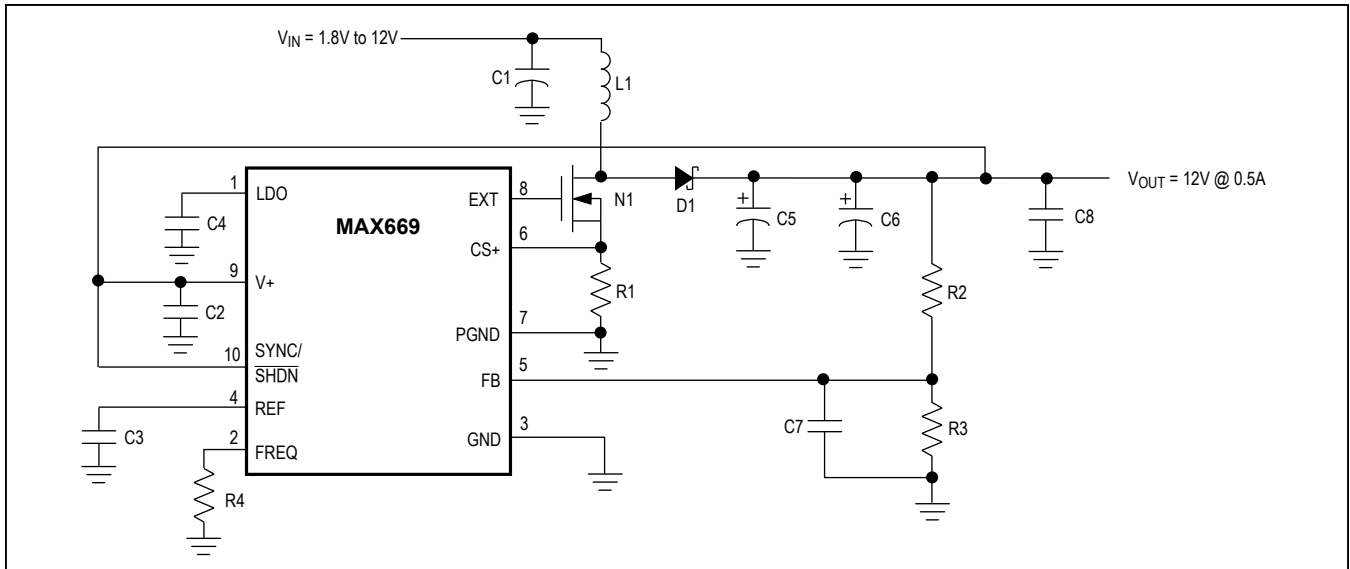
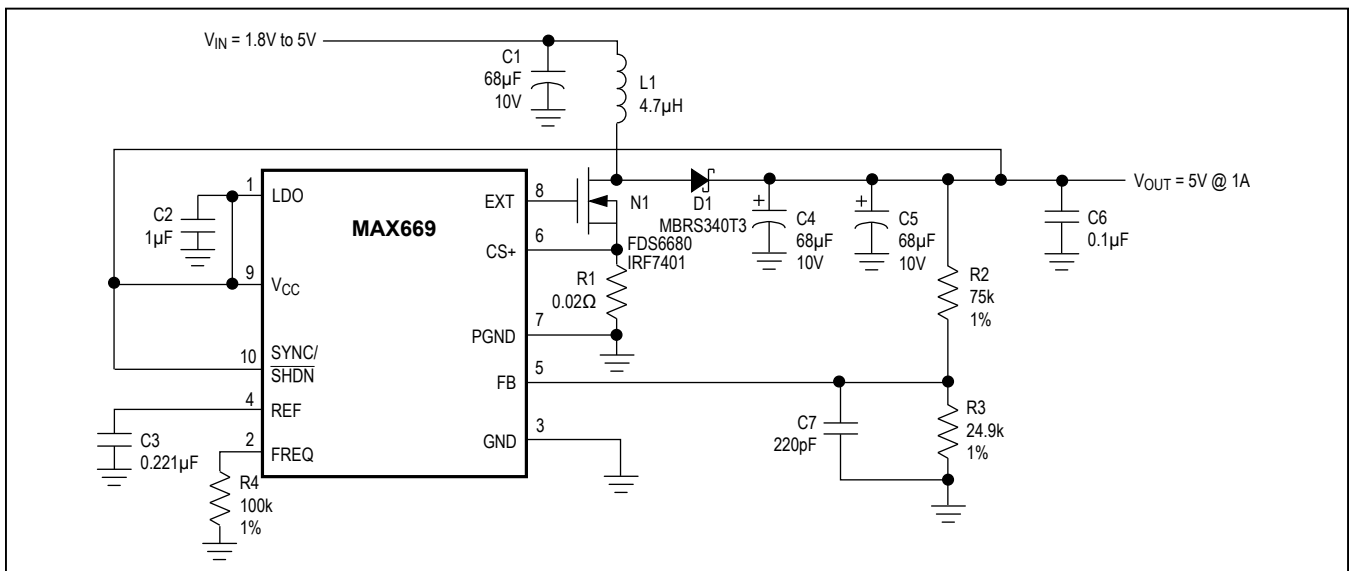
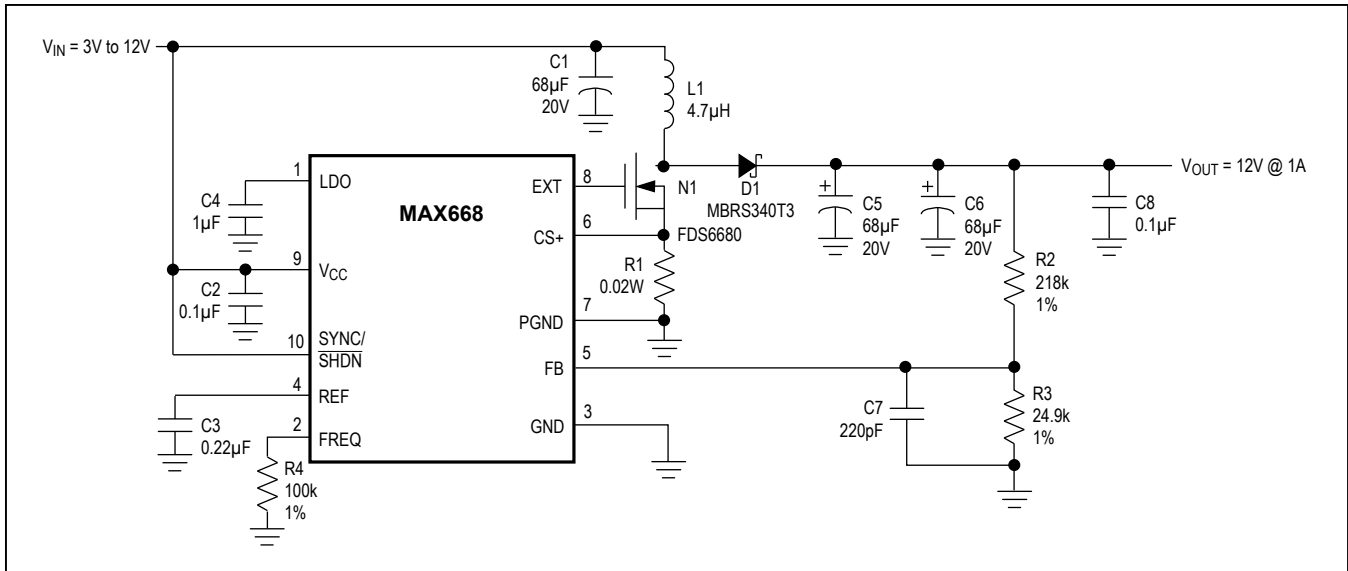
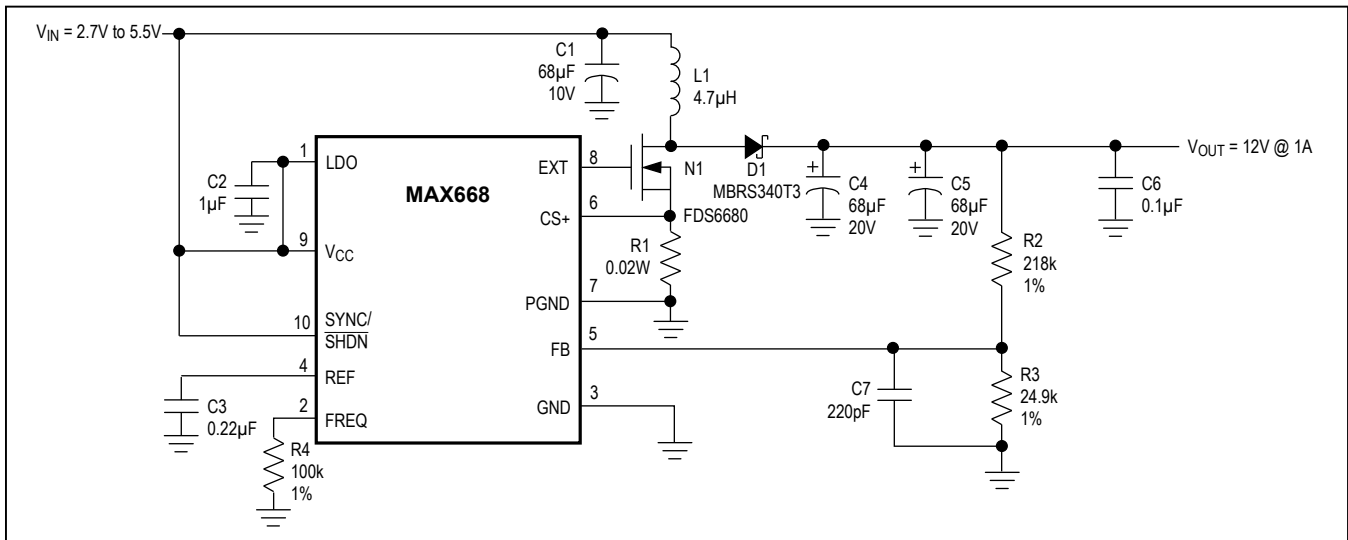

Figure 2. MAX669 High-Voltage Bootstrapped Configuration
Figure 3. MAX669 Low-Voltage Bootstrapped Configuration
Figure 4. MAX668 High-Voltage Non-Bootstrapped Configuration
Figure 5. MAX668 Low-Voltage Non-Bootstrapped Configuration
(Circuits of Figures 2, 3, 4, and 5; $T_A = +25^\circ\text{C}$; unless otherwise noted.)
V_{CC} and LDO allow a variety of biasing connections to optimize efficiency, circuit quiescent current, and full-load start-up behavior for different input and output voltage ranges. Connections are shown in Figure 2, Figure 3, Figure 4, and Figure 5. The characteristics of each are outlined in Table 1.
With V_{CC} connected to V_{OUT} , as in Figure 2, EXT voltage swing is 5V when V_{CC} is 5.2V or more, and $V_{CC} - 0.2V$ when V_{CC} is less than 5.2V. If the output voltage does not exceed 5.5V, the on-chip regulator can be disabled by connecting V_{CC} to LDO (Figure 3). This eliminates the LDO forward drop and supplies maximum gate drive to the external FET.
With non-bootstrapped operation, the IC is powered from the input voltage (V_{IN}) or another source, such as a logic supply. Non-bootstrapped operation (Figure 4) is recommended (but not required) for input voltages above 5V, since the EXT amplitude (limited to 5V by LDO) at this voltage range is no higher than it would be with bootstrapped operation. Note that non-bootstrapped operation is *required* if the output voltage exceeds 28V, since this level is too high to safely connect to V_{CC} . Also note that **only the MAX668 can be used with non-bootstrapped operation.**
If the input voltage does not exceed 5.5V, the on-chip regulator can be disabled by connecting V_{CC} to LDO (Figure 5). This eliminates the regulator forward drop and supplies the maximum gate drive to the external FET for lowest on-resistance. Disabling the regulator also reduces the non-bootstrapped minimum input voltage from 3V to 2.7V.
| High-Voltage, Bootstrapped | Figure2 | MAX669 | 1.8 to 28 | 3V to 28 | Connect V_{CC} to V_{OUT}. Provides maximum external FET gate drive for low-voltage (Input <3V) to high-voltage (output >5.5V) boost circuits. V_{OUT} cannot exceed 28V. |
| Low-Voltage, Bootstrapped | Figure3 | MAX669 | 1.8 to 5.5 | 2.7 to 5.5 | Connect V_{OUT} to V_{CC} and LDO. Provides maximum possible external FET gate drive for low-voltage designs, but limits V_{OUT} to 5.5V or less. |
| High-Voltage, Non-Bootstrapped | Figure4 | MAX668 | 3 to 28 | V_{IN} to ∞ | Connect V_{IN} to V_{CC}. Provides widest input and output range, but external FET gate drive is reduced for V_{IN} below 5V. |
| Low-Voltage, Non-Bootstrapped | Figure5 | MAX668 | 2.7 to 5.5 | V_{IN} to ∞ | Connect V_{IN} to V_{CC} and LDO. FET gate-drive amplitude = V_{IN} for logic-supply (input 3V to 5.5V) to high-voltage (output >5.5V) boost circuits. IC operating power is less than in Figure 4, since IC current does not pass through the LDO regulator. |
* For standard step-up DC-DC circuits (as in Figures 2, 3, 4, and 5), regulation cannot be maintained if V_{IN} exceeds V_{OUT} . SEPIC and transformer-based circuits do not have this limitation.
The output voltage is set by two external resistors (R_2 and R_3 , Figure 2, Figure 3, Figure 4, and Figure 5). First select a value for R_3 in the 10k Ω to 1M Ω range. R_2 is then given by:
where $R2$ and $R3$ are the feedback resistors (Figure 2, Figure 3, Figure 4, and Figure 5). If the calculated value for C_{FB} results in a non-standard capacitance value, values from $0.5C_{FB}$ to $1.5C_{FB}$ will also provide sufficient compensation.
In non-bootstrapped configurations (Figure 4, and Figure 5), the MAX668 can start up with any combination of output load and input voltage at which it can operate when already started. In other words, there are no special limitations to start up in non-bootstrapped circuits.
Figure 5 shows the MAX668 operating in a 5V to 12V boost application. This circuit provides output currents of greater than 1A at a typical efficiency of 92%. The MAX668 is operated in non-bootstrapped mode to minimize the input supply current. This achieves maximum light-load efficiency. If input voltages below 5V are used, the IC should be operated in bootstrapped mode to achieve best low-voltage performance.